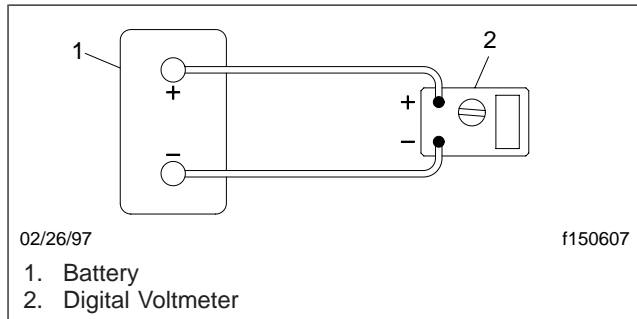
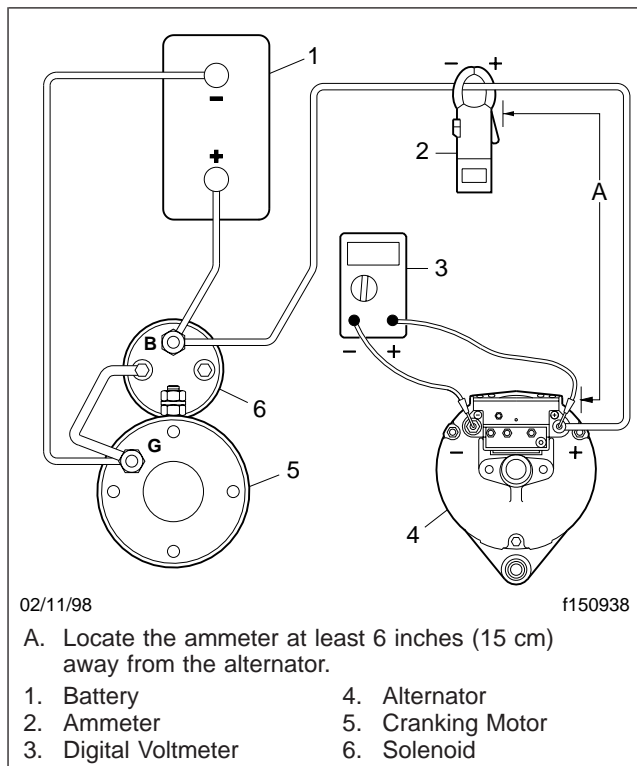

Fig. 2, Setup 1: Battery Open Circuit Voltage (and alternator amperage output)
Fig. 3, Setup 2: Alternator Output Test
1. Use a digital volt-ohmmeter (VOM) set on the 2-20VDC (or similar) scale to test the battery open circuit voltage (OCV). With the engine shut down and the voltmeter set up as shown in Fig. 2, check for voltage of 12.4 volts or more.
2. Check the alternator output without a load. See **Fig. 3**.
- 2.2 Connect the positive (+) lead of the digital voltmeter (still set on the 2-20VDC or similar scale) to the alternator (battery) terminal. Connect the negative (-) lead of the voltmeter to the alternator negative (-) ground terminal. See **Fig. 3**.
3. Check the alternator output under load. See **Fig. 3**.
- 3.1 Attach a clamp-on induction ammeter around the positive (+) wire. See **Fig. 3**.
- 4.1 Connect a carbon pile tester across the vehicle batteries as shown in **Fig. 2**.
NOTE: **Figure 2** shows a voltmeter, but the connections for the carbon pile tester are the same.
- 4.2 Attach a clamp-on induction ammeter around the alternator output wire. See **Fig. 3**.
5. To identify other problem areas within the vehicle, check the operation of the charging system. Set up the voltmeter as shown in **Fig. 2** and **Fig. 3**.